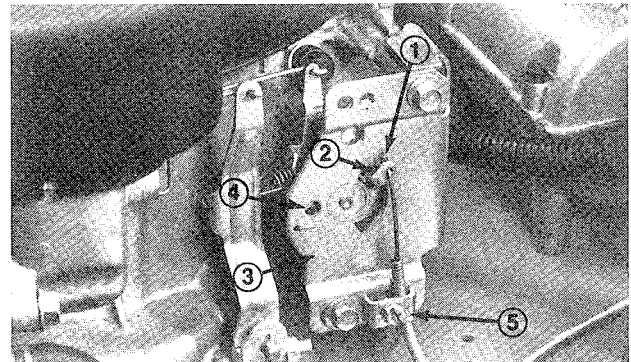

Figure 5
- 2. Hook wire Z-bend into hole of speed control lever (Fig. 5).
3. Loosen cable clamp screw allowing cable installation, but do not tighten (Fig. 5).